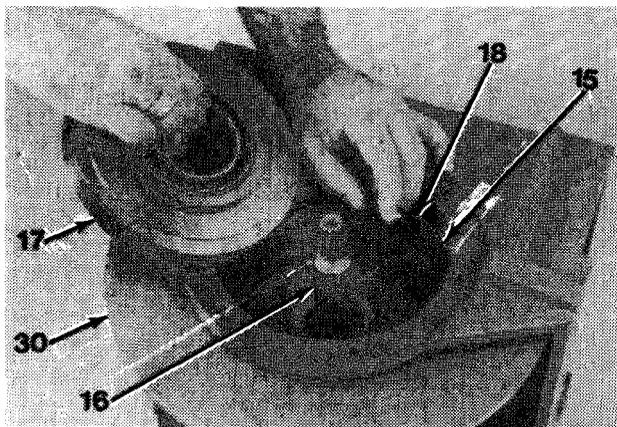
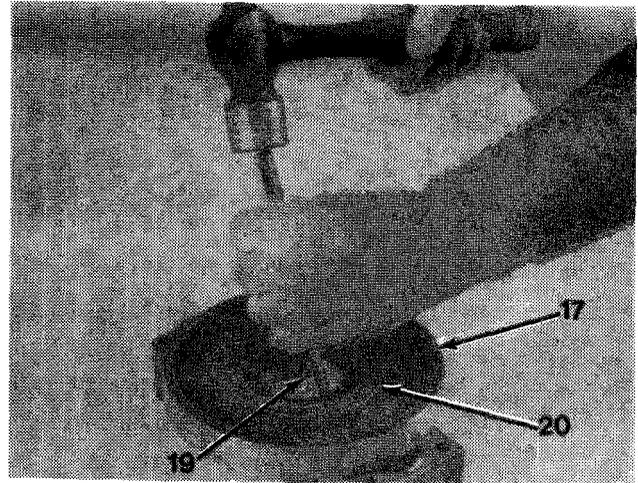

Figure 16-6
Figure 16-7
10. Remove brake cylinder assembly (14) from winch assembly by using chain as a handle.
11. Remove snap ring (15) and sun primary gear (16, Figure 16-6).
12. Remove drum closure (17) and O-ring (18) from inside of drum (30).
13. Remove seal (19) and ball bearing (20) from inside of drum closure (17, Figure 16-7),